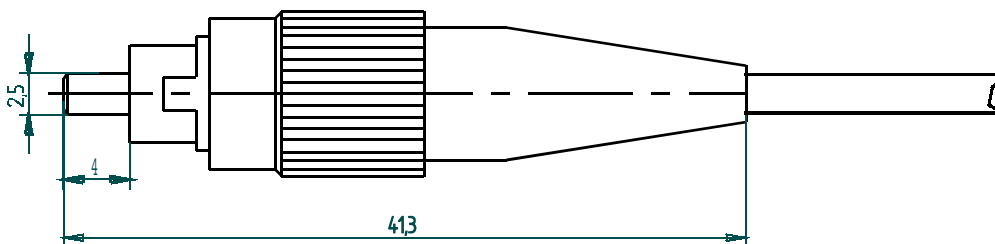

Figure 1 NPC205 Jumper Cable (diameter 2,8 mm Cable type):
1.3.1 Dimensions of the assembled plug shall conform to Fig. 1